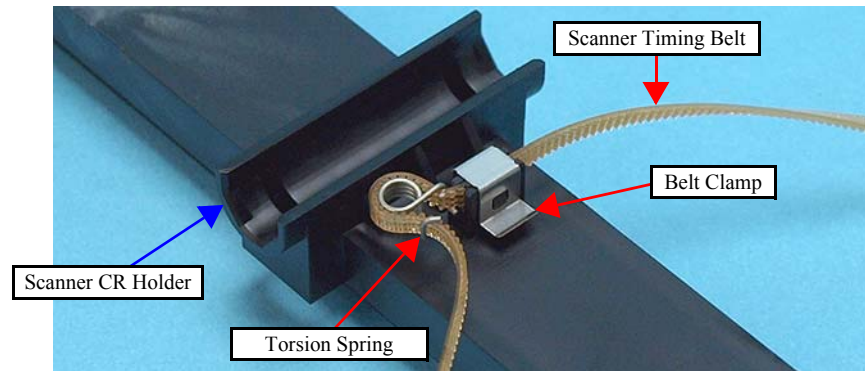

Figure 4-123. Removing the Scanner Timing Belt and Torsion Spring
- When installing the Scanner Timing Belt, attach the Torsion Spring as shown in Figure 4-123.